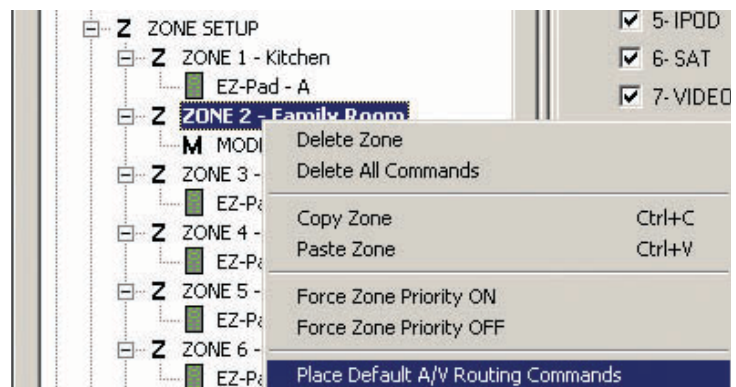

Figure 30
- To assure that the sources connected to the MZC will be properly routed to the local zone, a set of default A/V routing commands can be assigned to the source icons on the MODE 3.1. Under **Project Content/Zone Setup**, right click the Zone 2 icon. Highlight and left click **Place Default A/V Routing Commands**. The MZC Internal Commands for all source A/V signal routing will be automatically assigned to all sources available to the MODE in Zone 2. (Refer to **Figure 30**)